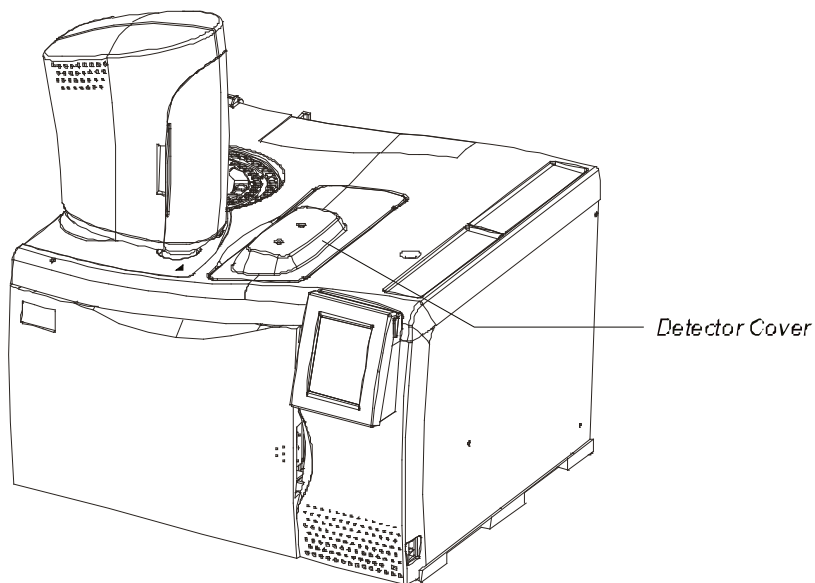

Figure 4-28. Location of the detector cover.
5. Open the detector cover (see Figure 4-28) and locate the bead potentiometer dial see (the following figure).